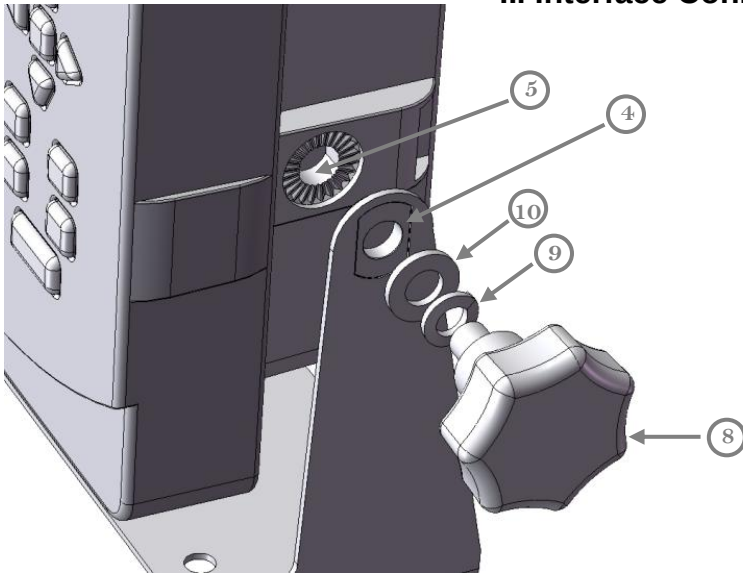

Figure 2-2-2-5 Installation instruction
(Refer to Figure 2-2-2-4)
When the mounting bracket and the CAMINO-201 are aligned, insert the knob (8) thru the Spring Washer (9), the Washer (10), then the body joint (4) till it click on the mounting bracket joint (5) as shown in Figure 2-2-2-5.
- Knob (8) should be placed outside of the body joint (4) .